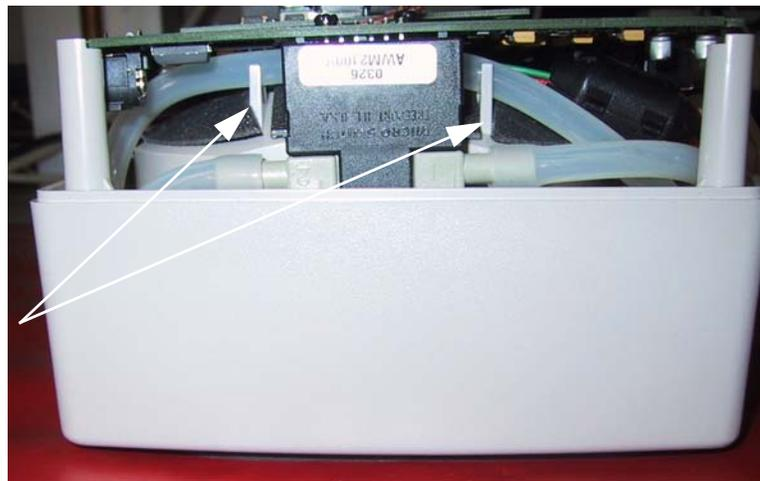

Figure 5-10. Correctly routed silicone tubing
- 11 Place the Main PCBA back onto the chassis support posts, ensuring that the Alarm PCBA fits into the notches on the chassis. If necessary, slide the ferrite on the blower wiring harness so that it rests in the space near the pressure transducer (the pressure transducer is connected to the 1.25" silicone tube). This enables the Main PCBA to sit flush with the chassis support posts. Check that the Mains/AC connector rests properly in the lower enclosure and that the 10" silicone tubing rests in the carriers of the chassis as shown in Figure 5-10.